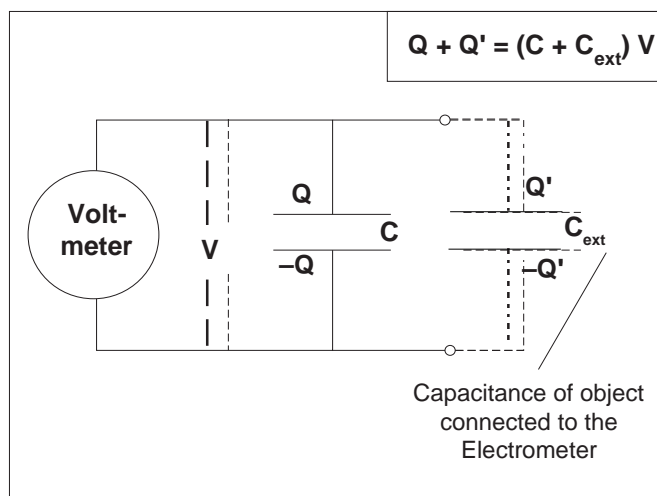

Figure 3 Change in Capacitance Due to Charged Object
When a charge is placed across the Electrometer leads, a voltage V will read on the meter. If the value C is known, the value of the charge can be calculated as $Q = CV$. However, when you touch the Electrometer leads to another object to test a charge, the capacitance may change. If the object adds significant capacitance, the situation becomes as shown in Figure 3. The new capacitance ($C + C_{ext}$) must be determined to accurately calculate the charge from the measured voltage.
► **EXPLANATION:** This measurement is shown schematically in Figure 3. First the Electrometer is charged with an unknown charge Q , that must satisfy the equation $Q = C_e V_e$, where C_e is the total capacitance of the system and V_e is the Electrometer reading. Then the second capacitor is connected in parallel with the capacitance of the Electrometer. The total capacitance is now $C_e + C_k$. The charge Q has not changed, but now satisfies the equation $Q = (C_e + C_k)V_k$, where V_k is the new Electrometer reading. Combining the two equations gives, $C_e V_e = (C_e + C_k)V_k$, or $C_e = C_k V_k / (V_e - V_k)$.